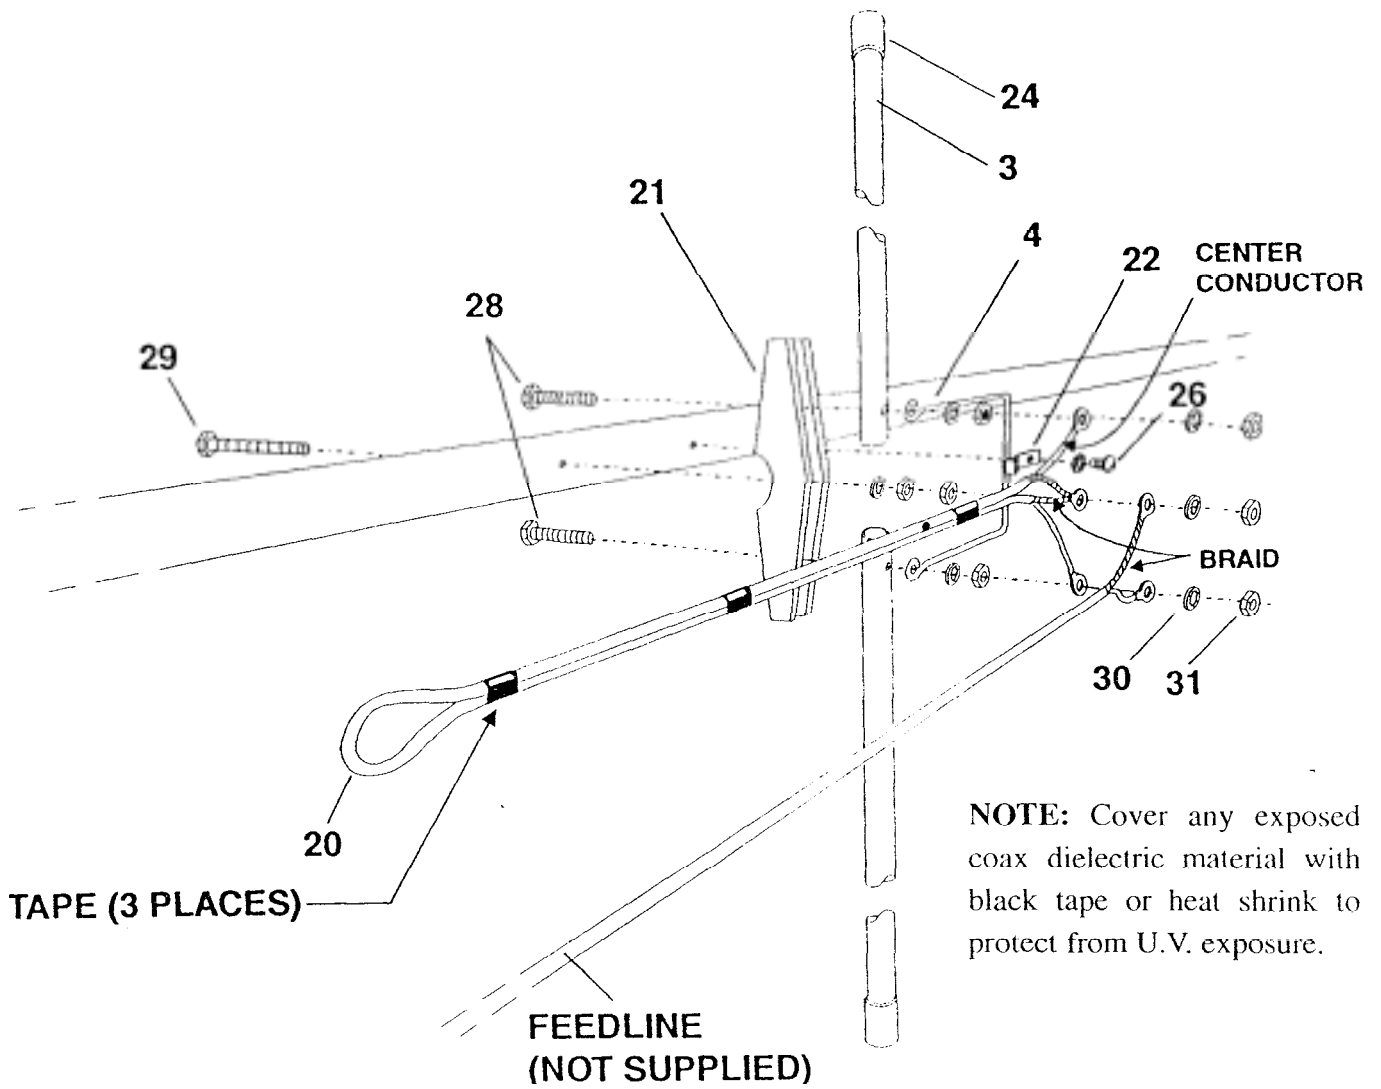

Figure 4
Select the element-to-boom insulator (Item No. 21), two sections of the 7/16" x 17 1/4" Driven element (DE) (Item No. 3) and the beta rod (Item No. 4). See Figure 4.
Use the #10-24 x 2 1/2" bolt (Item No. 29) to fasten the element-to-boom insulator to the boom. Refer to Figure 4. Use a lockwasher and 2 nuts to secure.
Use the two (2) #10-24 x 1 1/2" bolts (Item No. 28) to assemble the Driven Element as shown in Figure 4. Pay particular attention to the connections of the beta rod, balun and feedline. The beta rods will bend slightly as the screw (item 26) is tightened.
Use the #10 x 3/8" screw (Item No. 26) to fasten the beta rod shorting clip (Item No. 22) over the beta rod as shown in Figure 4.